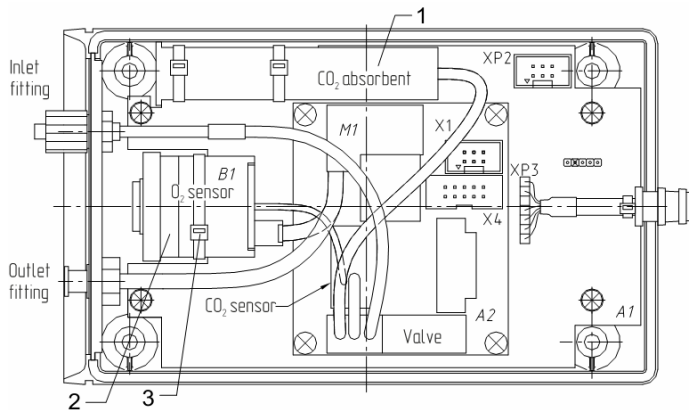

Fig. 6. Location of elements which required timely maintenance.
- CO2 absorbent (fig. 6, item 1). Has rather long life (not less than 1 year) and should be checked every 12 months. If absorbent reaches the end of its service life it changes its color to dark lilac.
- O2 sensor (only for GA-2) (fig. 6, item 2). When the sensor reaches the end of its service life (12 months) it is necessary to replace it. To replace the sensor cut the collar, detach the connector (fig. 6, item 3) and extract the sensor. The new sensor placement should be performed in the reverse order.